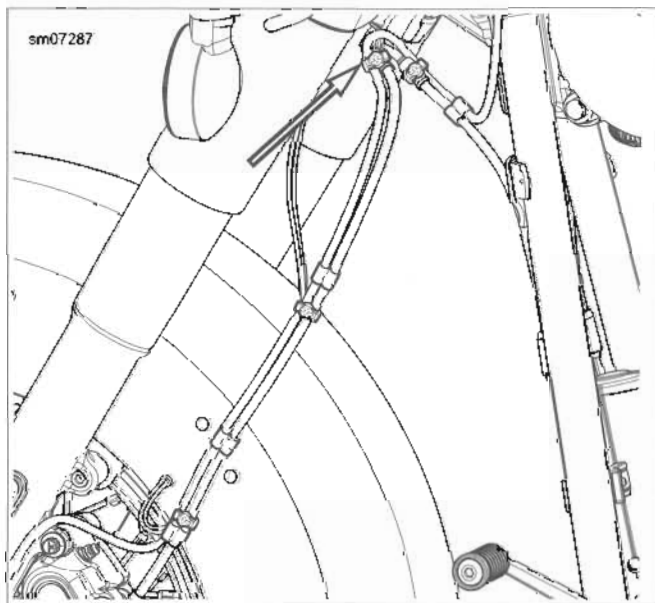

Figure 1-40. Front ABS Brake Line
3. **ABS models:** see Figure 1-40. Disconnect brake line from steering head.
22. **ABS models:** see Figure 1-40 and 2.15 BRAKE LINES. Connect brake line to steering head.